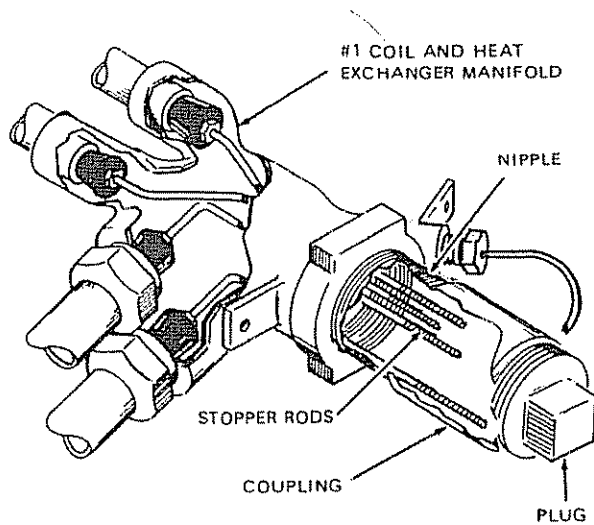

FIGURE 12
1. Remove plug from #1 coil and heat exchanger assembly manifold, fig. 11 and insert stoppers into the four heat exchanger water passages, fig. 12.
2. Install a nipple and coupling at the manifold to allow for the length of the stopper rods, fig. 12.